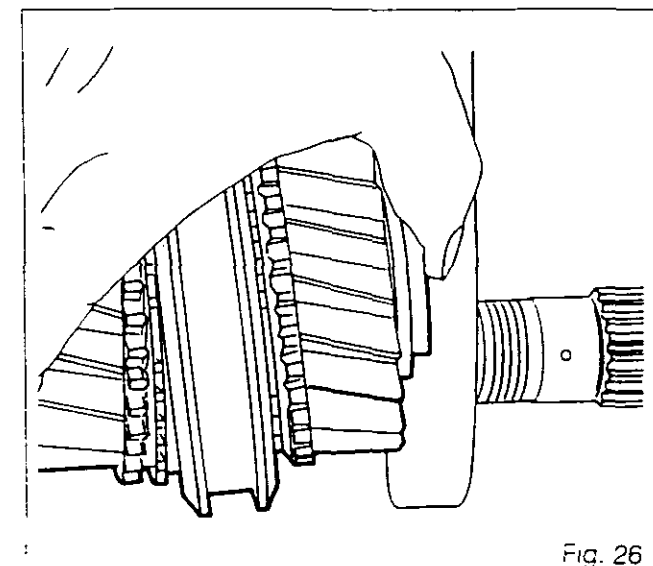

Fig. 26
68. Move the A gear (67) slightly forwards to disengage the fork.
70. Withdraw the A gear (67) with the double needle roller bearing (79) and the bush (81).
71. Remove the sleeve (82) and the bearing cone (1).
73. Remove the 1st and 2nd gear train complete (Fig. 26).